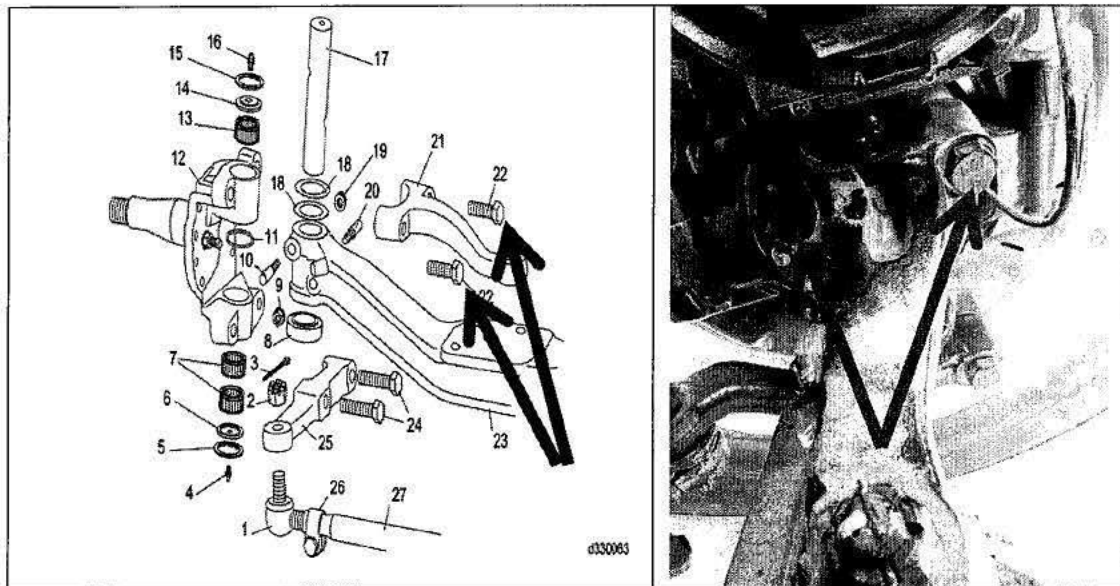

Figure 1 – Steering Arm Capscrew Location
3. Using a suitable torque wrench, check the torque on the two steering arm capscrews. See Figure 1.
Reference section "Dissassembly of the Steering Knuckle" in the Front Axles chapter of the *Detroit Axles Manual* (DDC-SVC-MAN-0141). See Figure 1.